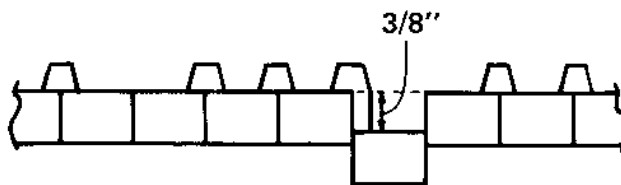

FIG. 5 - 1 KEY DEPTH MEASUREMENT
The remaining adjustments have to do with keyboard action. Refer to Figure 5 - 1. Measure the depth of keydown on a low, middle and high note. The depth should be 3/8 inch from keytop to keytop at the front edge of the key. Less than 3/8 inch key travel means the Damper Bar is too low. Figure 5 - 2 illustrates the hardware securing the Damper Bar. Loosen screws 1 and 2 and nuts 3, 4, 5 and 6. The Damper Bar should be positioned so that the lead weight just touches the felt with normal full keydown pressure. Check this on both ends and near the two center brackets (some early Chroma's have only one center bracket). After tightening all mounting hardware, check Damper Bar height. Press a key down with one hand and with the other hand grasp the wood key shank just forward of the lead weight. Pull against the Damper Bar felt. Proper adjustment results in restraint of further movement. If the Damper Bar is too high, the lead weighted end of the key will pull up higher against the felt even though you are holding the key full down with your other hand. As mentioned previously, adjusting the Damper Bar too low will restrict the keydown movement to less than 3/8 inch.
The left and right stack switch boards are mounted with three (3) screws going through elongated holes into "T" nuts (see Figure 5 - 3). Loosening these screws allows the stack switches to be moved up or down to their correct position. Set the stack switch boards so that the top (normally open) leaf travels upward about 1/32" after closing (as shown in Figure 5 - 4) before the key stops.